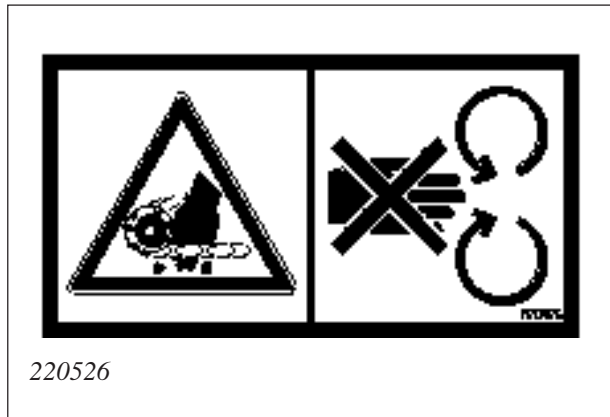

Fig. 21
**Warning sign 220526 (Fig. 21).** Fingers could be cut off if caught by the roller chain.